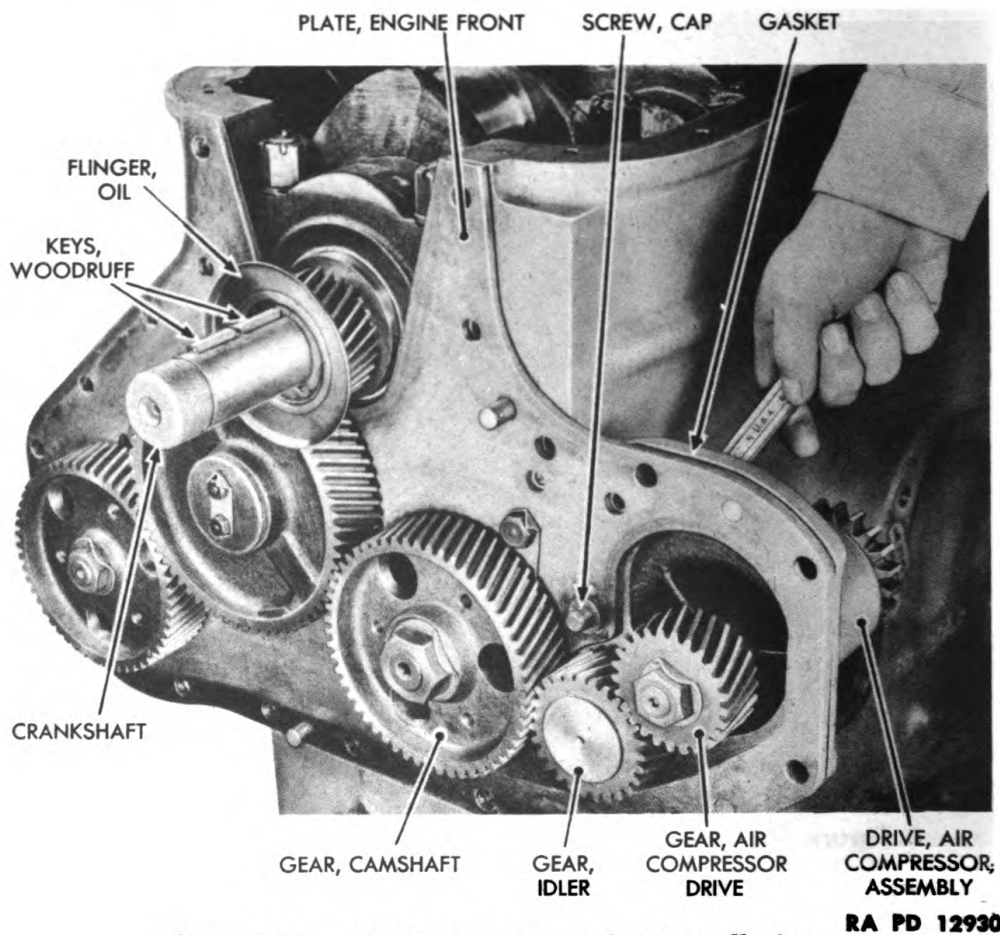

Figure 162—Air Compressor Drive Installation
(1) **INSTALL NEW GASKET** (fig. 162). Position new gasket between engine front plate and air compressor drive housing.
(2) ATTACH AIR COMPRESSOR DRIVE ASSEMBLY TO ENGINE FRONT PLATE (fig. 162).